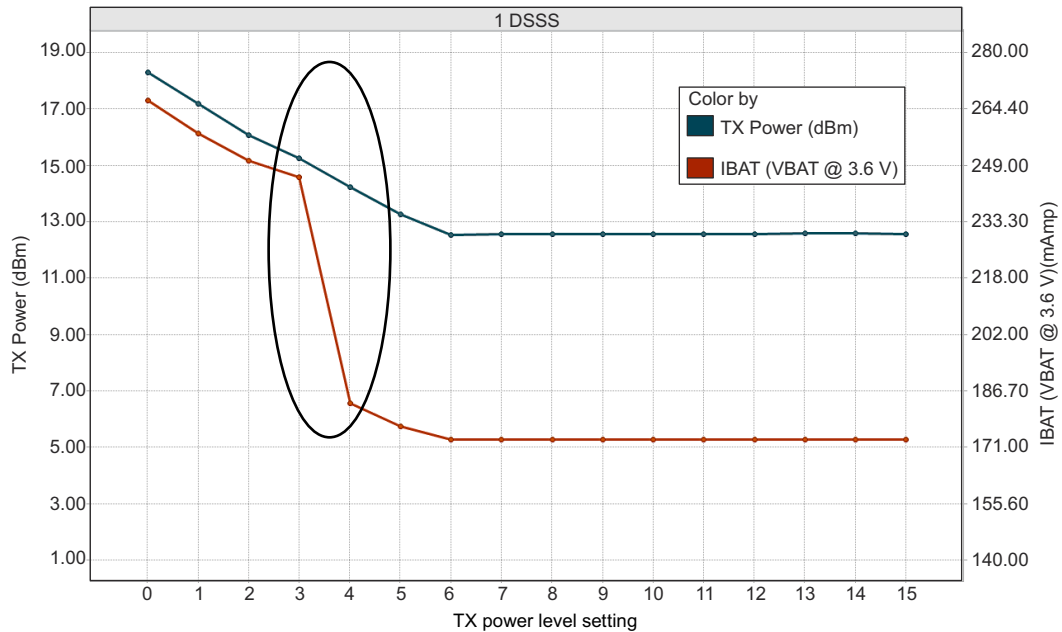
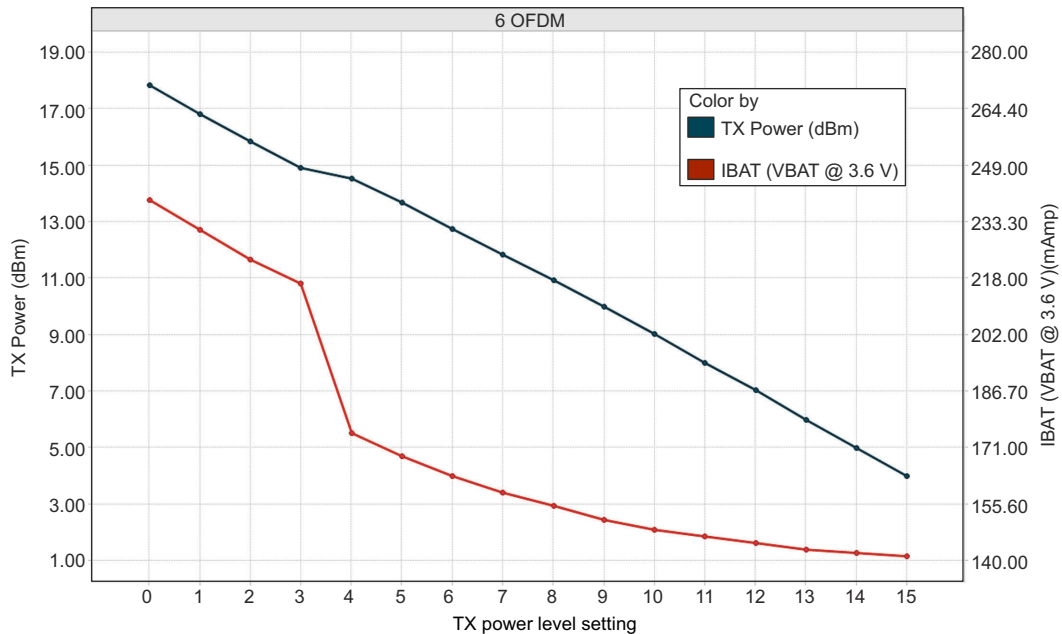
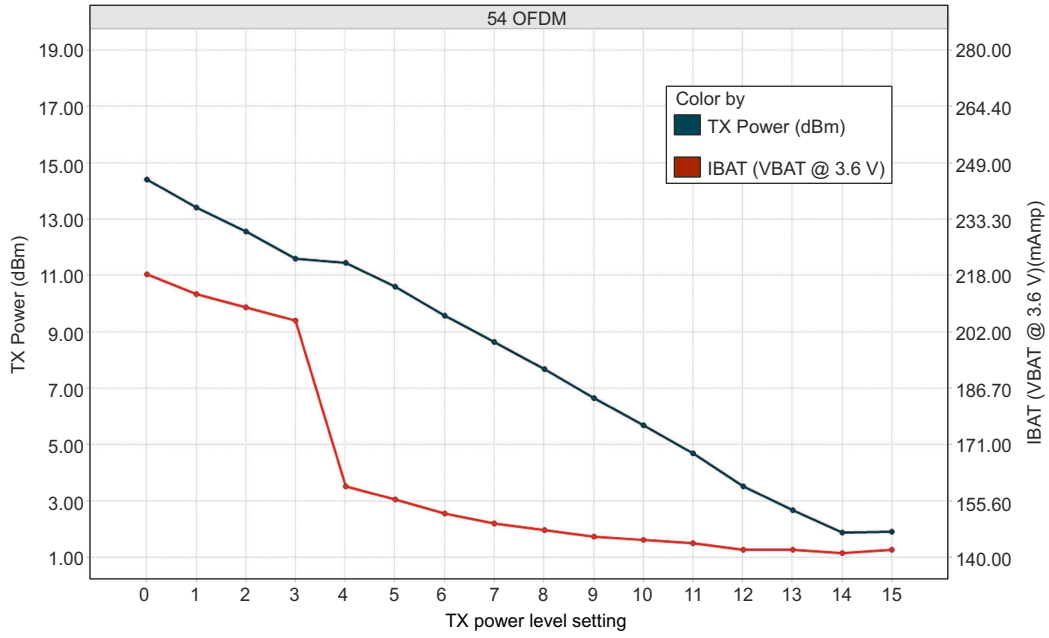

Figure 7-1. TX Power and IBAT vs TX Power Level Settings (1 DSSS)
Figure 7-2. TX Power and IBAT vs TX Power Level Settings (6 OFDM)
Figure 7-3. TX Power and IBAT vs TX Power Level Settings (54 OFDM)
- (1) TX power level = 0 implies maximum power (see Figure 7-1, Figure 7-2, and Figure 7-3). TX power level = 4 implies output power backed off approximately 4 dB.
- (2) LPDS current does not include the external serial flash. The LPDS number of reported is with retention of 256KB of MCU SRAM. The CC3230x device can be configured to retain 0KB, 64KB, 128KB, 192KB, or 256KB of SRAM in LPDS. Each 64-KB block of MCU retained SRAM increases LPDS current by 4 μA.
- (3) DTIM = 1
- (4) The complete calibration can take up to 17 mJ of energy from the battery over a time of 24 ms. In default mode, calibration is performed sparingly, and typically occurs when re-enabling the NWP and when the temperature has changed by more than 20°C. There are two additional calibration modes that may be used to reduced or completely eliminate the calibration event. For further details, see CC31xx, CC32xx SimpleLink™ Wi-Fi® and IoT Network Processor Programmer's Guide.
- (5) The CC3230x system is a constant power-source system. The active current numbers scale based on the V_{BAT} voltage supplied.
- (6) Typical numbers assume a VSWR of 1.5:1.
- (1) TX power level = 0 implies maximum power (see Figure 7-1, Figure 7-2, and Figure 7-3). TX power level = 4 implies output power backed off approximately 4dB.
- (2) LPDS current does not include the external serial flash. The LPDS number of reported is with a retention of 256KB of MCU SRAM. The CC3230x device can be configured to retain 0KB, 64KB, 128KB, 192KB, or 256KB of SRAM in LPDS. Each 64-KB block of MCU retained SRAM increases LPDS current by 4 μA .
- (4) The complete calibration can take up to 17 mJ of energy from the battery over a period of 24 ms. Calibration is performed sparingly, typically when coming out of HIBERNATE and only if the temperature has changed by more than 20°C. The calibration event can be controlled by a configuration file in the serial flash.
- (5) Typical numbers assume a VSWR of 1.5:1.
Figure 7-1, Figure 7-2, and Figure 7-3 show TX power and IBAT versus TX power level settings for the CC3230S device at modulations of 1 DSSS, 6 OFDM, and 54 OFDM, respectively. For the CC3230SF device, the IBAT current has an increase of approximately 10mA to 15mA depending on the transmitted rate. The TX power level will remain the same.
In Figure 7-1, the area enclosed in the circle represents a significant reduction in current during the transition from TX power level 3 to level 4. In the case of lower range requirements (14dBm output power), TI recommends using TX power level 4 to reduce the current.